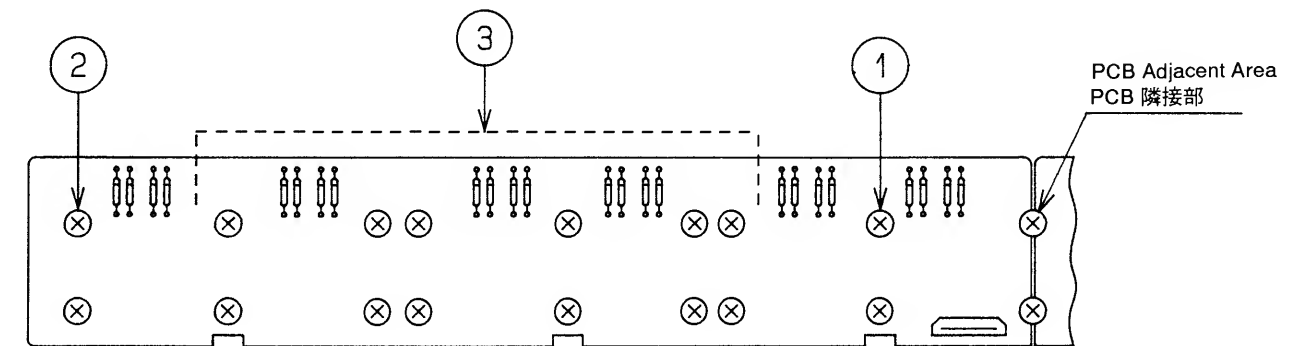

fig. 7 (Example: order of screwing for PCB 32P "LOW")
5) Next, using TAP TITE SCREWS, fasten PCBs "LOW" and "HI" in place from the center of the keyboard, for example, from ① in the case of "LOW" as shown in fig. 7.